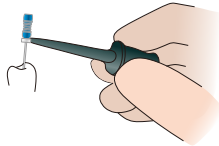

Fig.17
- Insert the file into the root canal and hold the file clip in the metal part of the file (Fig. 17);